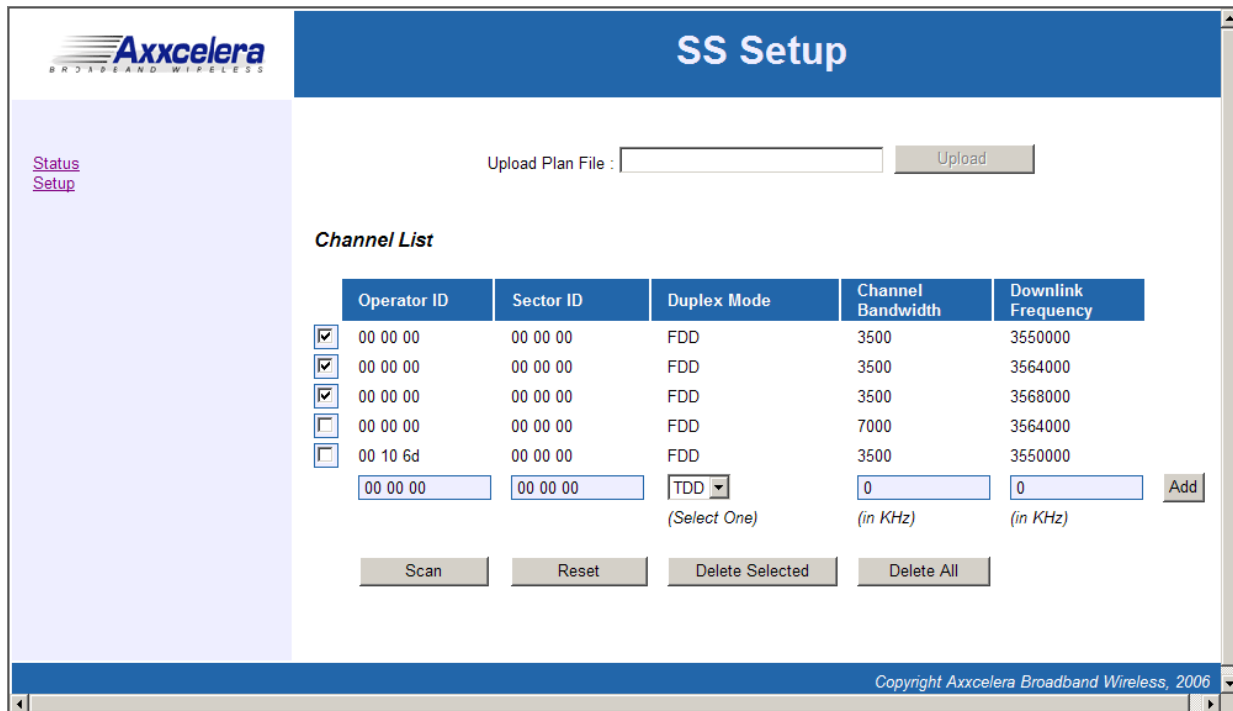

Figure 9-2 Selecting Channels
- 7) To scan channels in the list, select the channels that you wish to scan by clicking the checkboxes (Figure 9-2) to the left of the **Operator ID** column.